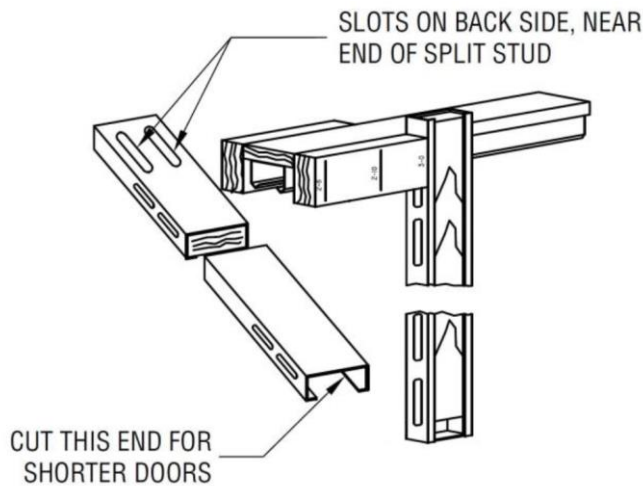

Figure 7
Note: The bottom of the split stud is the end without the slots as seen in Figure 7. If the split studs must be cut for shorter doors, determine which end of the split stud has the slots and cut off the other end.
- Butt one pair of the split studs against the header nailing boards with the slots side against the header as seen in Figure 7